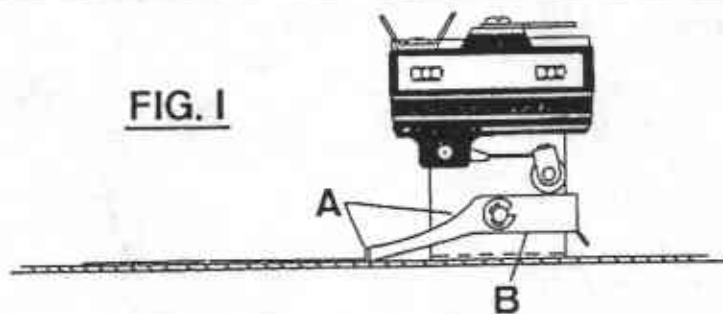

FIG. 1
2. Lay air switch assembly on flat surface. Adjust air blade at "A" (FIGURE 1) so that air blade lays flat and surface "B" is parallel to the flat surface.